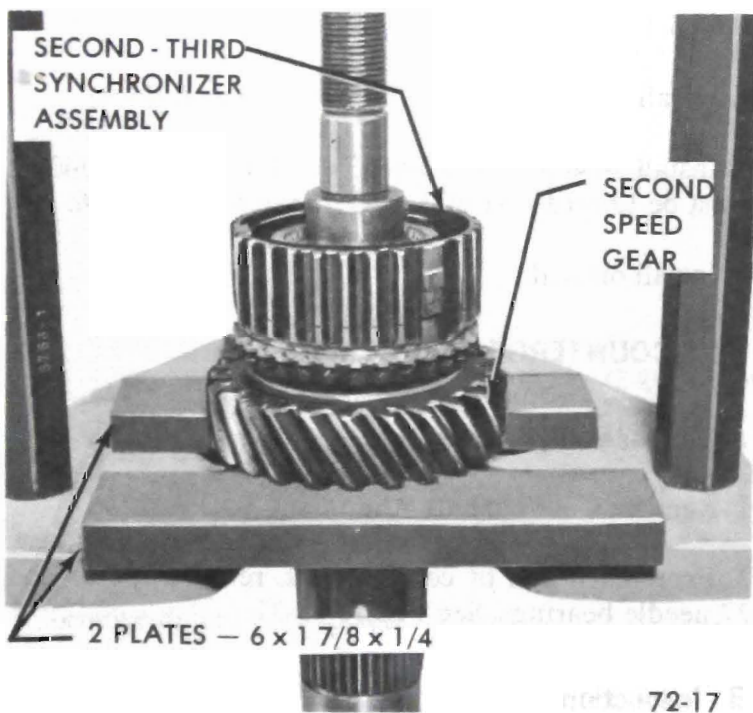

Figure 72-15 - Removing Second-Third Speed Synchronizer Assembly
8. Support second speed gear on press plate using two (2) pieces of stock 6x1-7/8x1/4. See Figure 72-15. Remove second-third speed synchronizer assembly and second speed gear.